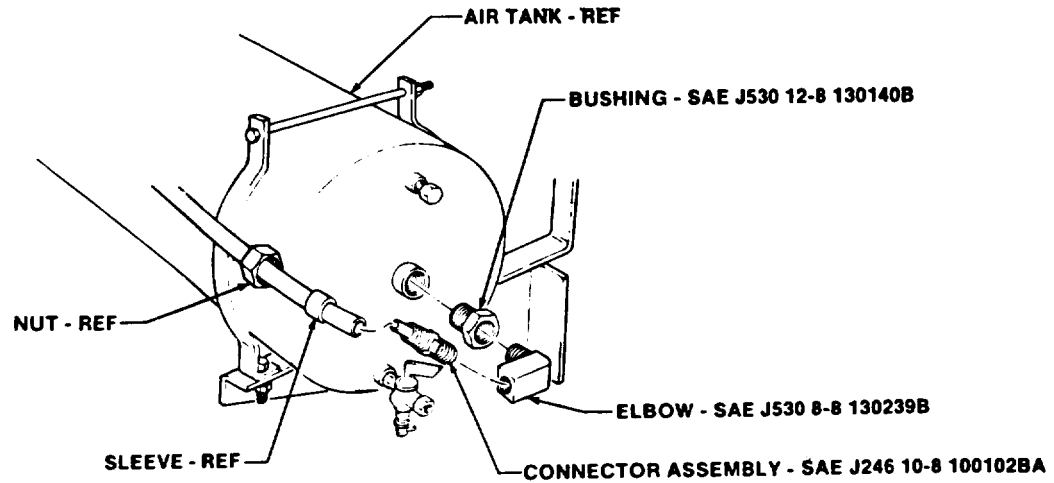

FIGURE 4
- (6) Install SAE J530 12-8 130140B bushing in air tank as shown in figure 4.
- (7) Install SAE J530 8-8 130239B elbow in bushing on air tank as shown in figure 4.
- (8) Install SAE J246 10-8 100102BA connector assembly in elbow as shown in figure 4. Retain sleeve and nut for use in paragraph b. step 8.